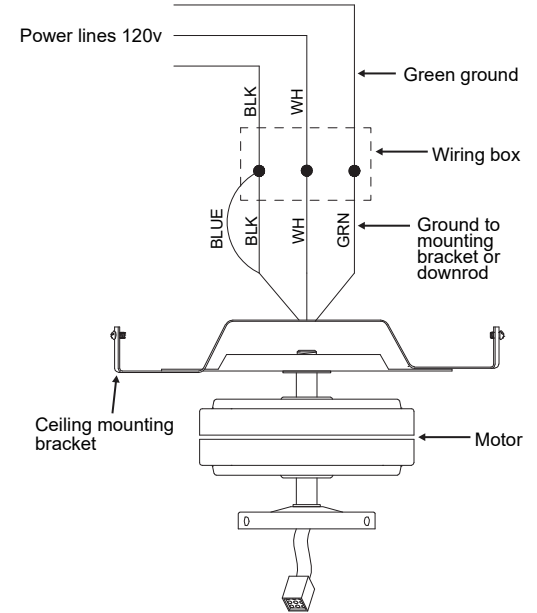

Fig. 7
Step 1. Connect the fan supply (black+blue) wire to the black household supply wire as shown in **Figure 7**.